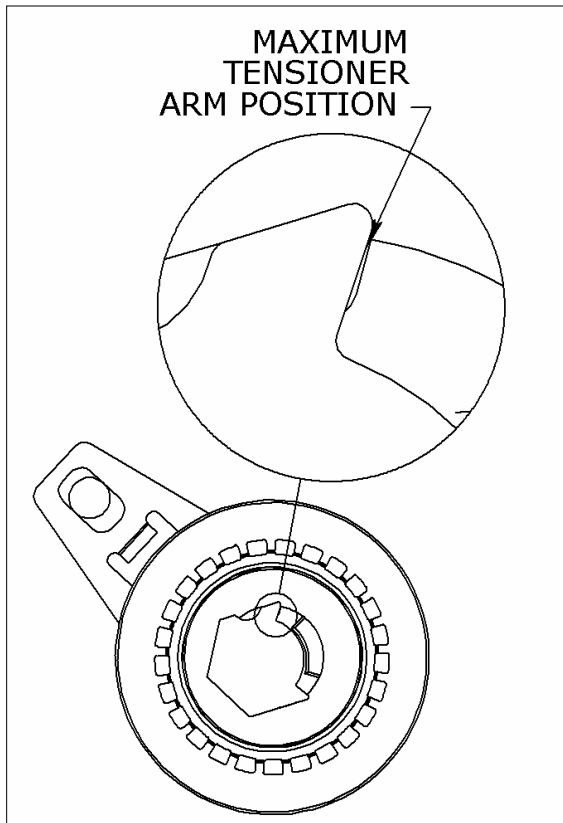

Figure 6: Tensioner is Readjusted to the MAXIMUM Position at TDC
9. Rotate the crankshaft at least two (2) complete revolutions clockwise manually for proper seating of the belt and until the crankshaft is repositioned at the TDC alignment position.
- If the load stop edge of the pivot shaft aligns within the **Maximum/Minimum Position** range in the arm, the installation is complete (Figures 6 and 7).
12. Push or pull the base plate tab until the load stop edge of the pivot shaft aligns within the **Maximum/Minimum Position** range in the arm (Figures 6 and 7).